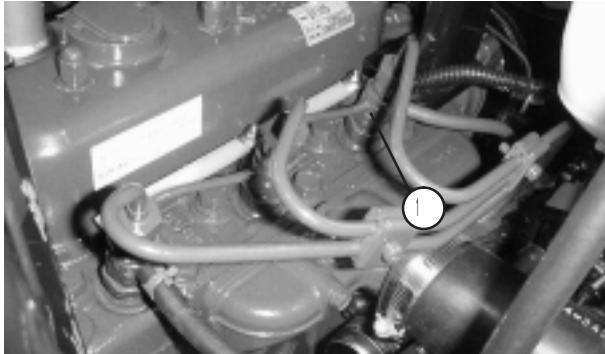

Figure 48
1. Loosen the pipe connection to the No. 1 injector nozzle and holder assembly at injection pump (Fig. 48).